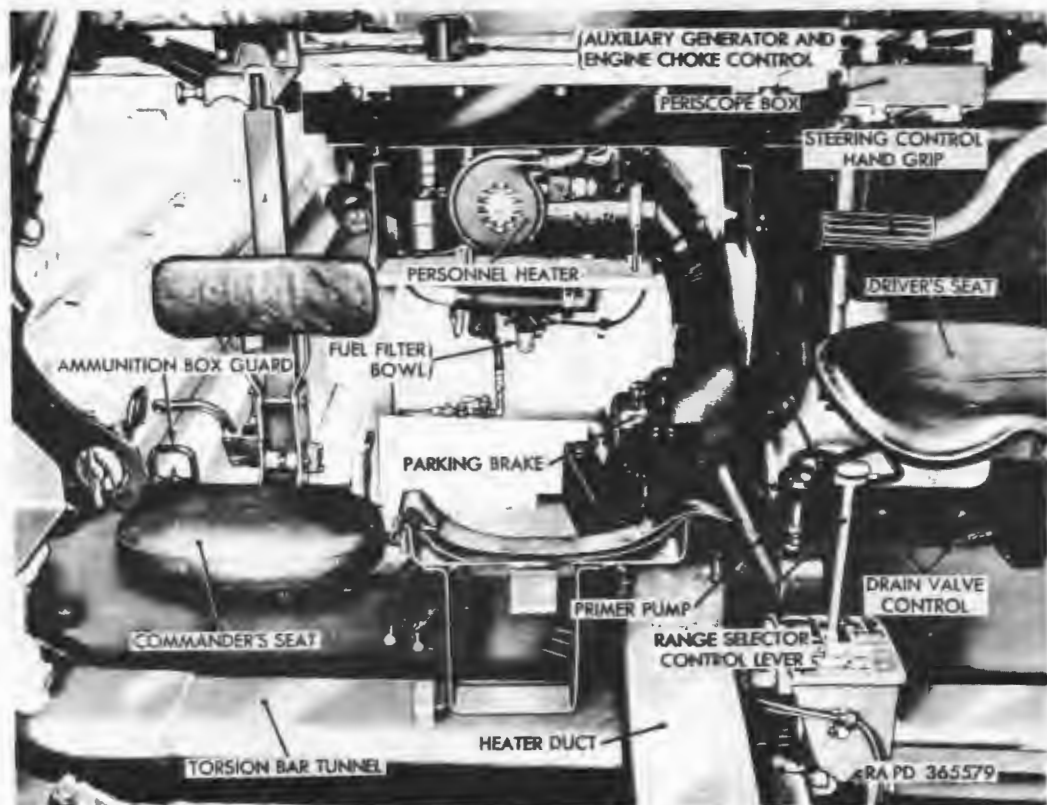
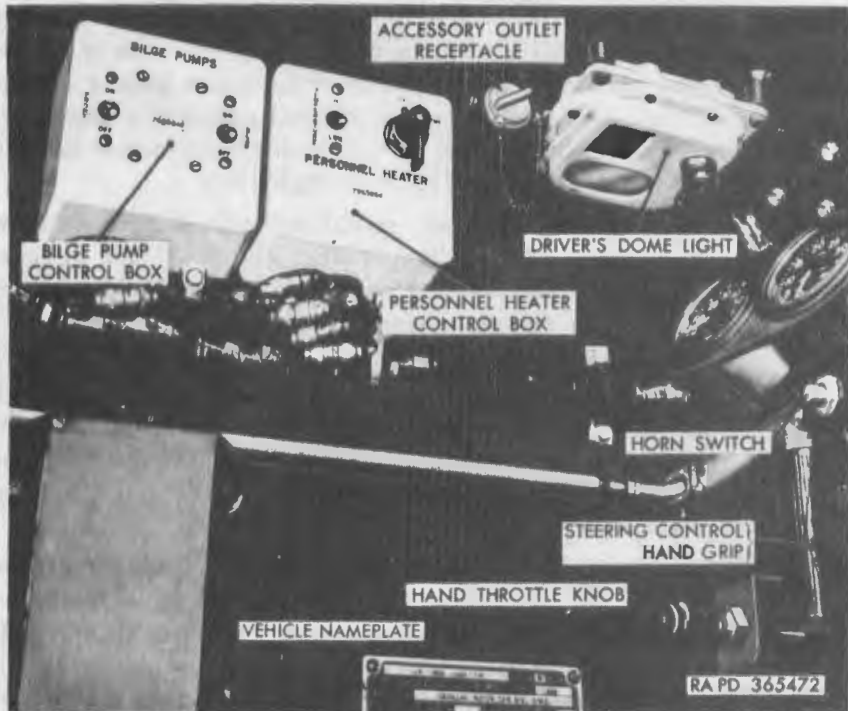

Figure 59. Driving compartment accessories.
Figure 60. Personnel heater and bilge pump control boxes.
a. Description. The auxiliary generator and engine (fig. 161) is an integral unit mounted in the right front corner of the engine compartment. This is a multipurpose accessory used to recharge the batteries, to provide a source of electrical power when the main engine is not running, to provide a source of electrical power to supplement the main engine generator, and to furnish heat to the engine compartment during cold weather operation. Controls for the unit are the auxiliary generator and engine control box (fig. 18), a manual starter handle (fig. 161), and a choke control (fig. 59).
- (2) *Auxiliary generator and engine choke control handle* (fig. 59). This control handle is mounted on the driving compartment rear wall to the left of the commander's backrest. It is connected by flexible cable to the auxiliary generator and engine carburetor and its mounting bracket is angled to face the driver.
Pull out auxiliary generator and engine choke control (fig. 59) as required to provide smooth operation until engine has warmed up.
temperature is low and the engine is cold, pull out the auxiliary generator and engine choke control (fig. 59) to full choke position. If temperature is below 25° F., place the ignition and starting switch in RUN position for approximately 5 minutes. This allows the intake elbow heaters to preheat the elbow which aids fuel vaporization. The heaters are operated by thermostatic control whenever the ambient temperature is below 40° F., and the switch is in the RUN or START position. Before attempting to manually start the auxiliary generator and engine at temperatures below 0° F., reduce engine friction by diluting the crankcase oil with 1½ pints of gasoline. An equivalent amount of oil must be drained from the crankcase prior to adding the gasoline. Check the oil level gage after adding gasoline and if it indicates a level above full mark drain to the mark.
a. Description. The gasoline-burning personnel heater (fig. 59) is located to the immediate rear of the driving compartment and positioned centrally between the two ammunition stowage compartments. The heater control switch, marked OFF - ON - PRIME and the temperature control switch, marked HI - LOW are mounted on the personnel heater control box (fig. 60) which is mounted on the hull left wall in the driving compartment. Heat
- (1) Turn the fuel shutoff valve control lever (fig. 9) to the BOTH ON position. Move the master relay switch to the on position. At the personnel heater control box (fig. 60), set the temperature control switch to HI position and turn heater control switch to ON position. Warm air should be felt at the heater outlets in 1 to 3 minutes. Heat output during operation is controlled by the temperature control switch.
- (2) The heater is equipped with a safety device that automatically shuts off the fuel supply should the heater fail to ignite. If warm air is not felt at the outlets within 3 minutes, hold the spring-loaded heater control switch on PRIME position for 30 seconds, then return to the ON position. If heater does not start on the third attempt, service is required and no further attempts should be made until the cause of failure has been corrected.
Note. See paragraph 69 for serial numbers of vehicles having bilge pumps. In vehicles without bilge pumps, the control box (fig. 60) has been eliminated. The torsion bar tunnels (fig. 59) have slotted areas at the floor line to allow any water to drain to the lowest point in the
b. Operation. Turn the master relay switch on. Turn one or both switches in the bilge pump control box (fig. 60) to the ON position. The switch marked FRONT controls the bilge pump in the driving compartment and the switch marked REAR controls the one in the engine compartment. During fording operations, turn bilge pumps on before entering water.
The accessory outlet receptacle (fig. 60) is located between the personnel heater control box and the driver's dome light. This